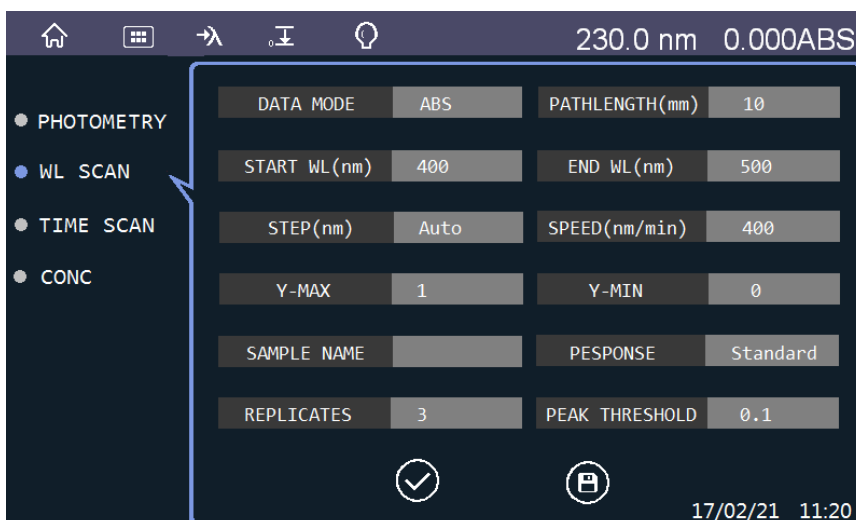

Figure 3-7 Setting interface of wavelength scan parameter
1) Click “Setting” icon to set the parameter, as shown in Figure 3-7.